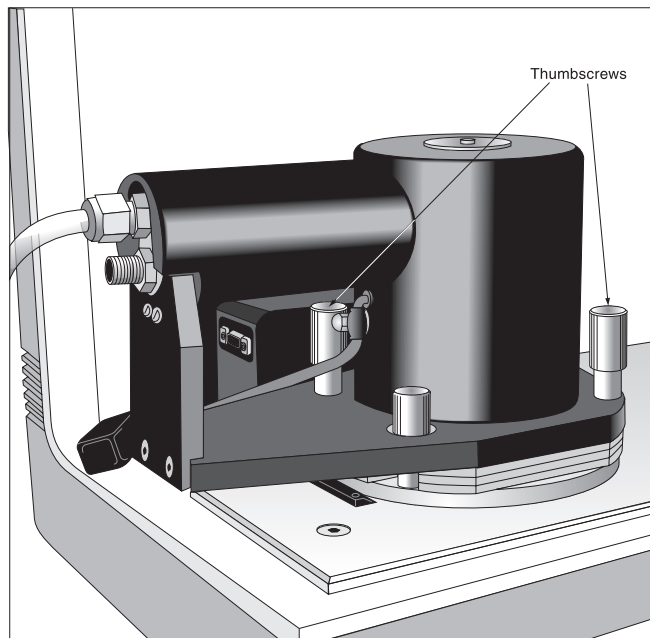

Figure 2.13
6. Screw the two large thumbscrews into their positions in the heat exchanger (see Figure 2.13).